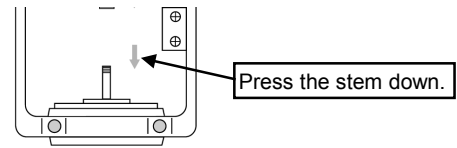

Figure 4
- 2 Push down on the stem of the valve to the lowest position (Figure 4) (two-way valve: fully closed, three-way valve: port B fully closed)